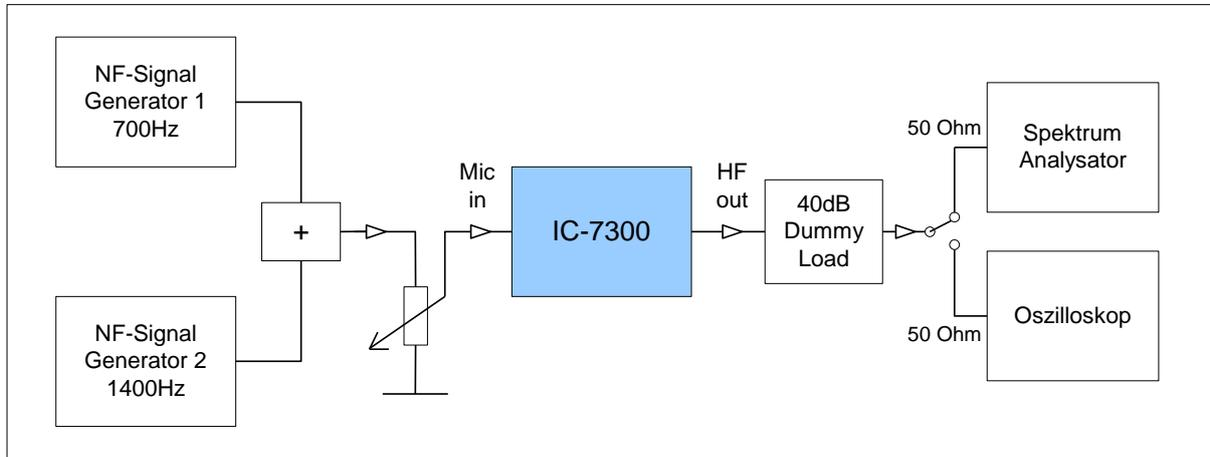
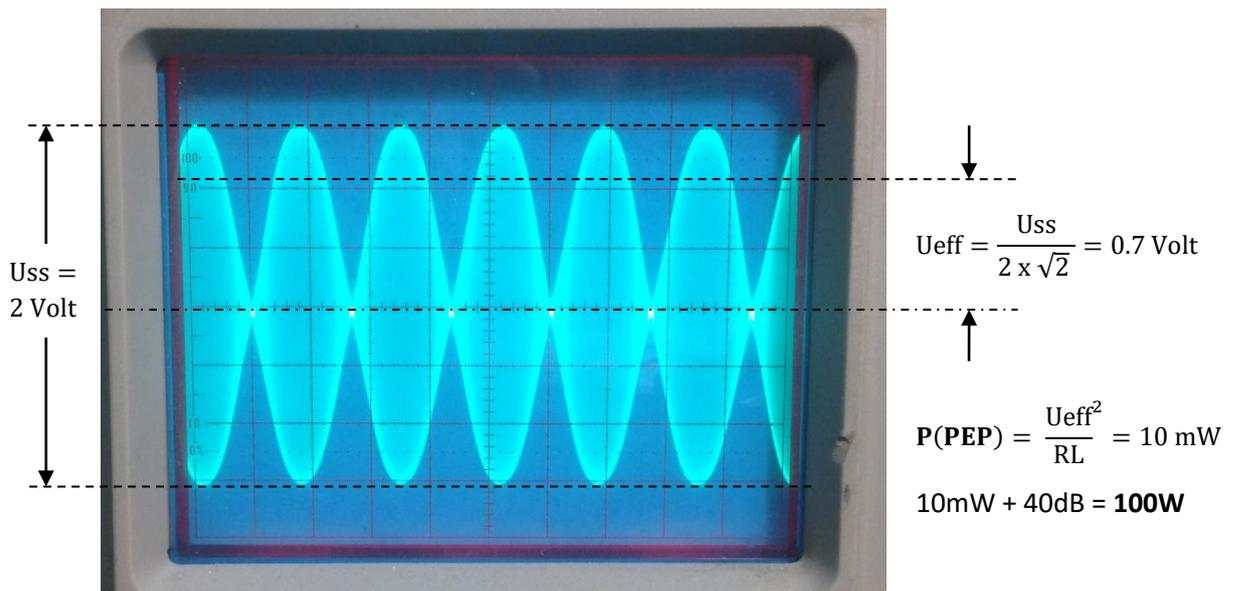

Figure 13: Measurement setup for transmitter intermodulation
Figure 14: HF 2-tone signal with 100 Watt PEP on the scope in the time domain, at 14.1 MHz
To measure the intermodulation of the MOSFET power amplifier, we connect the microphone input to an AF 2-tone generator ( $f_1 = 700\text{Hz}$ ,  $f_2 = 1500\text{Hz}$ ) and adjust the microphone input voltage so that the transmitter reaches a PEP output power of 100W (Fig 13) (5). Since the transmitter is now driven by two closely spaced sinusoidal signals of equal amplitude, beat-frequency effects occur, with the signals adding or canceling (Fig. 14). Therefore the average power of the transmitter does not reach 100W but only  $2 \times 25\text{W} = 50\text{W}$  and the levels of the two RF signals are 6dB below the maximum